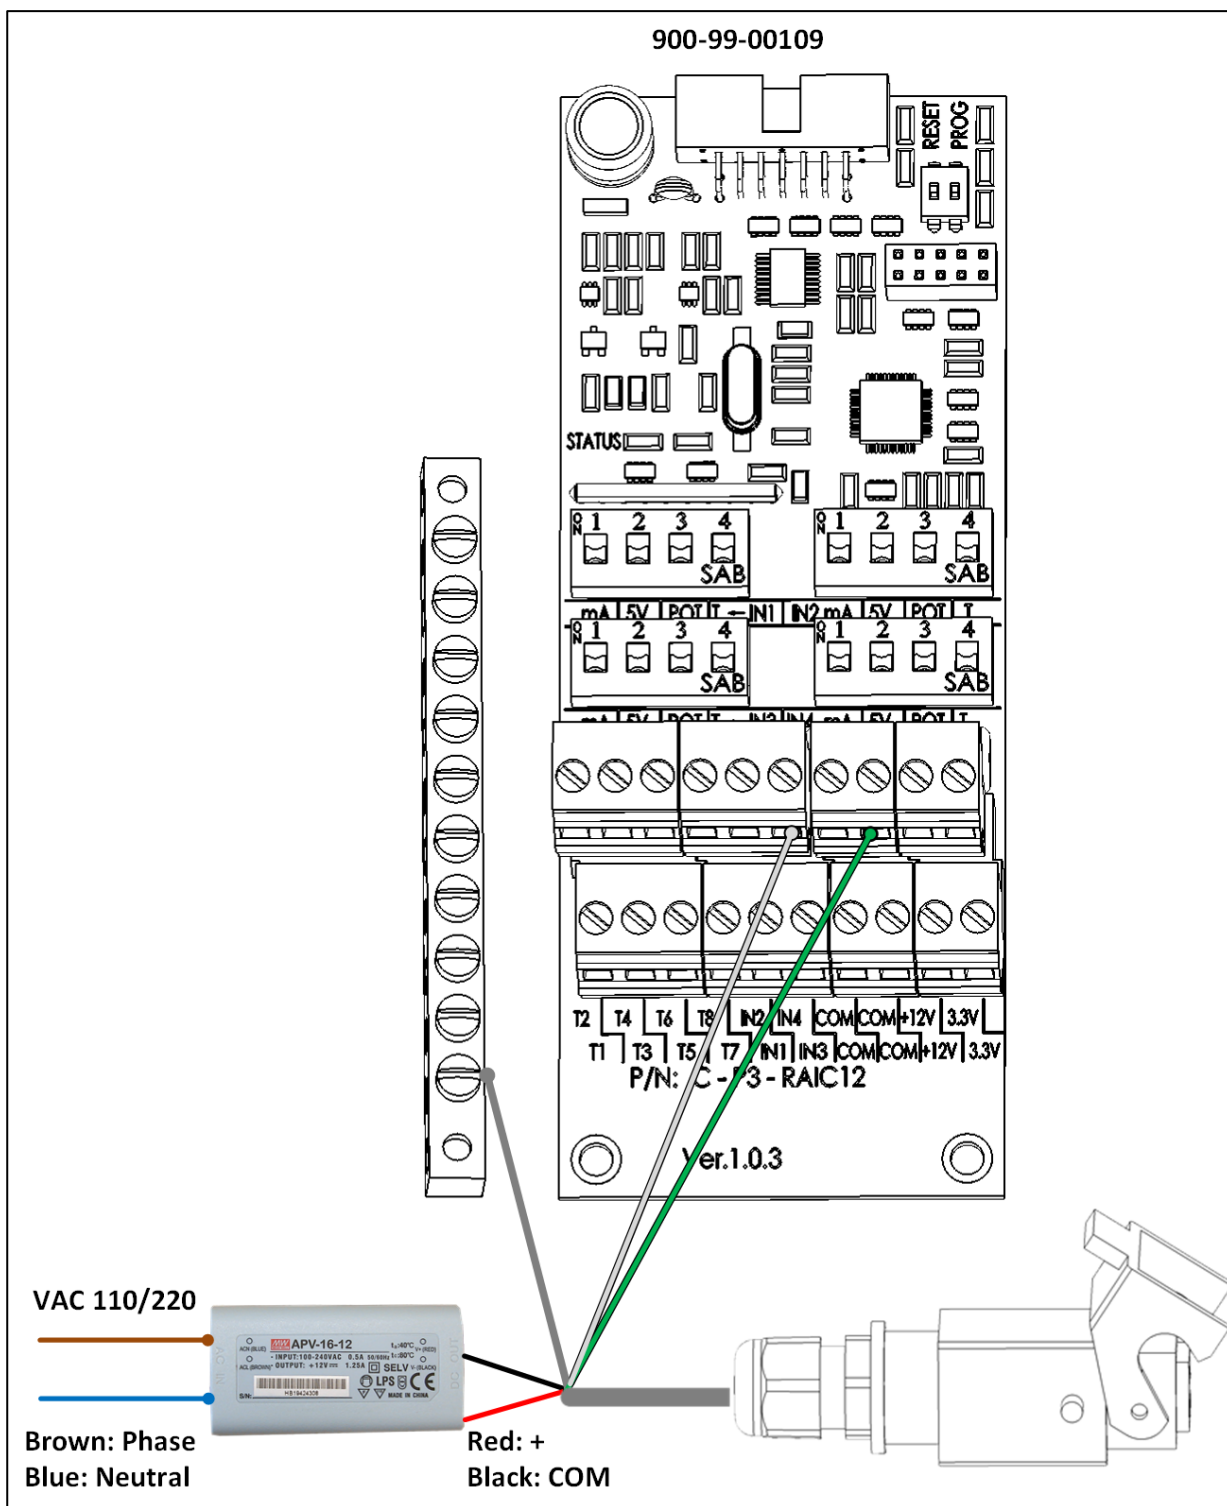

Figure 11: Platinum Pro Power Supply Wiring
1. Attach the other end of the sensor cable to the power supply and Platinum Pro Analog Input Card as indicated in Figure 11.